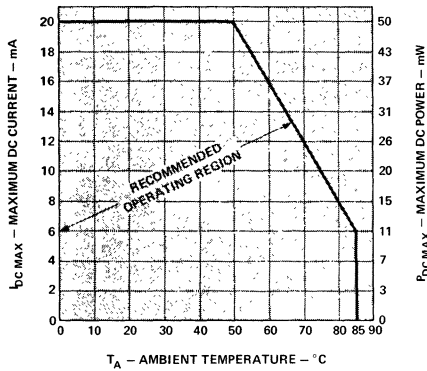

Figure 2. Maximum Allowable DC Current and DC Power Dissipation Per Segment as a Function of Ambient Temperature.
- From Figure 2, determine the value for $I_{DC\ MAX}$.